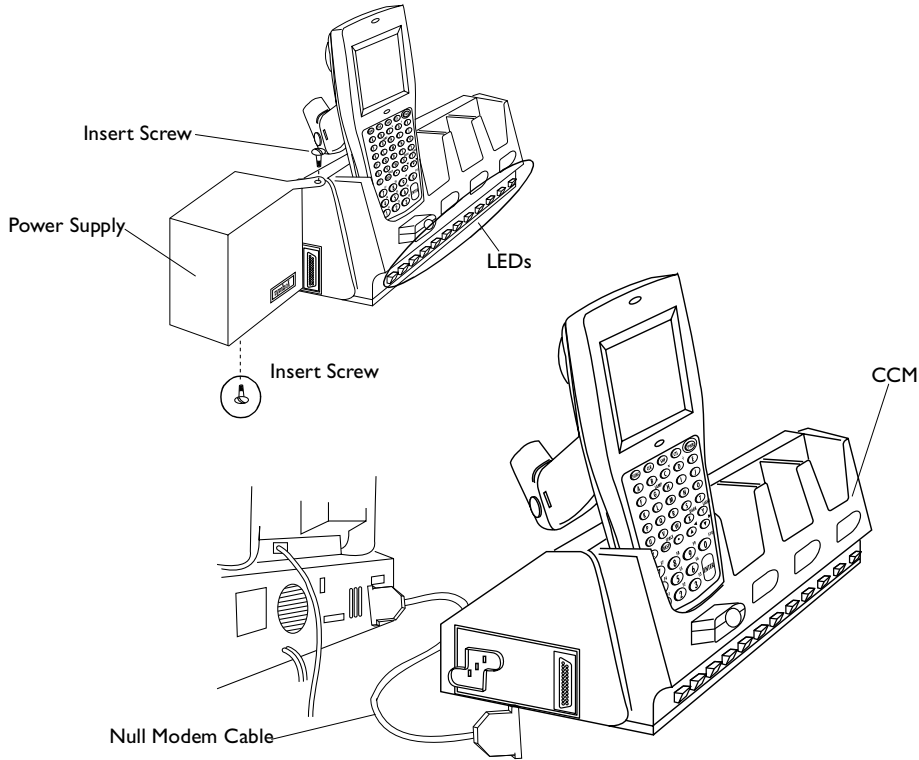

Figure 2-14. Connecting the CCM 38/6860 for Charging and Communications
- a. Attach the power supply to the left side of the CCM as shown in Figure 2-14 using two cross-head screws.